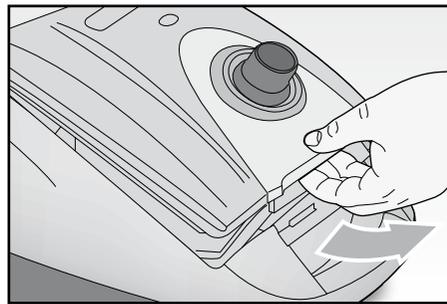
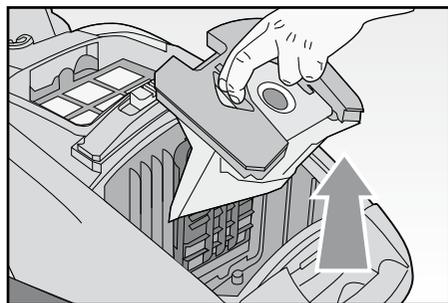

Fig. 7
Fig. 8
- lift the bag compartment by pushing the relevant lever outwards (FIG. 7);
- Remove the bag (FIG. 8), taking care not to tear it; slide the stiff plastic section along the special guides. Wash the bag in water and a mild detergent, if necessary.
- Open the division (FIG. 7) and remove the small bag (FIG. 8).
- Open the bag division pushing the apposite lever outside (FIG. 7).